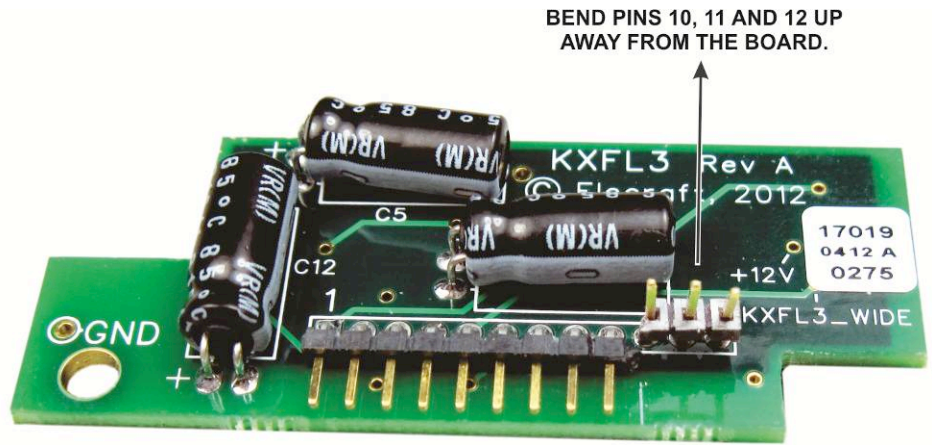

Figure 5. Preparing to Cut Pins 10, 11 and 12.
- Once the plastic header is cut through, use your needle nose pliers to bend the pins 10, 11 and 12 up away from the board as shown in Figure 5.